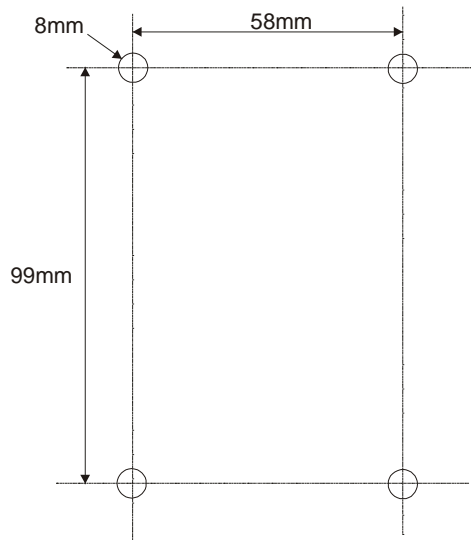

Figure 8-7: SPR mounting bracket dimensions for the four fixing holes
2. Attach the mounting bracket to the wall using four screws. The fixing dimensions for the mounting bracket is illustrated in Figure 8-7.